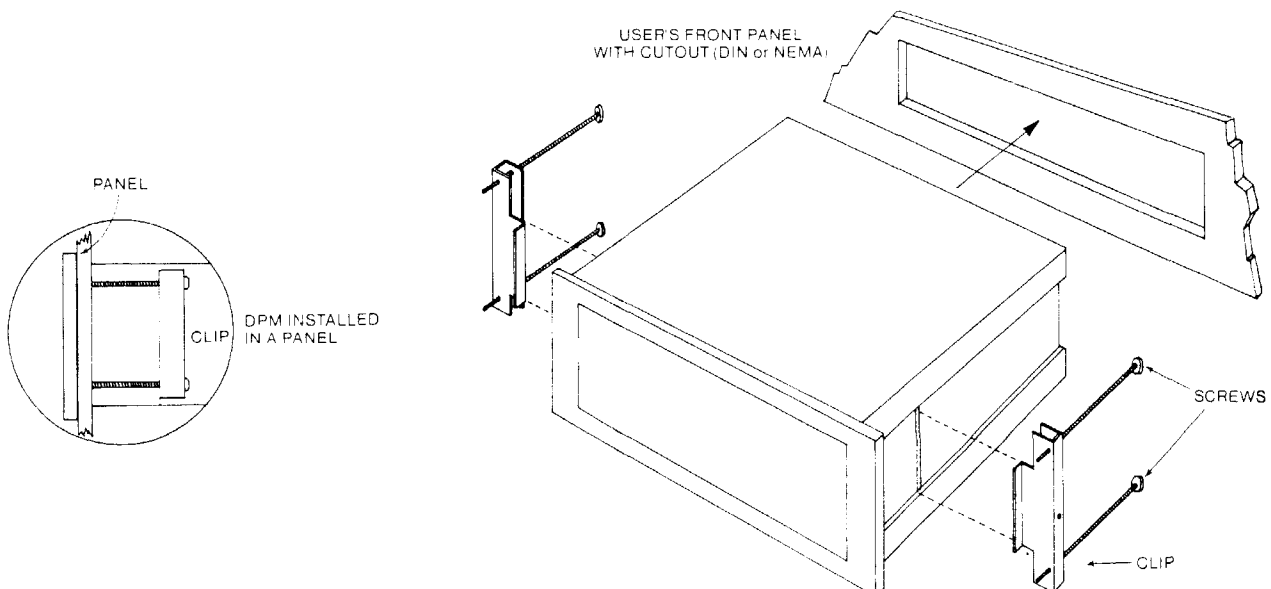

Figure 3b. Panel Installation
2. Install the DPM into the panel cutout as shown in Figure 3b.
4. The clips are provided with screws. Tighten the screws against the front panel as shown in Figure 3b inset.